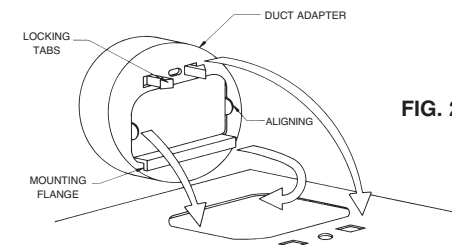

FIG. 2
4. If duct adapter is already attached to housing, disregard item #4, if not proceed as follows: Attach duct adapter to housing by first hooking mounting flange over edge of air discharge opening. Pivot duct adapter insuring (2) aligning tabs are inside opening and align (2) locking tabs with small rectangular holes. Press tabs firmly into holes to lock. See Fig.2.